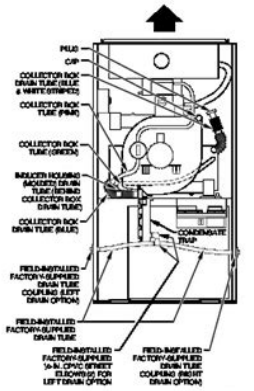

Fig. 3—Factory-Shipped Upflow Tube Configuration (Shown With Blower Access Panel Removed)
An alternate location for the condensate trap is the left-hand side of casing. (See Fig. 3 and 4.)
- Remove casing hole filler cap from casing hole. (See Fig. 3 or 4.)